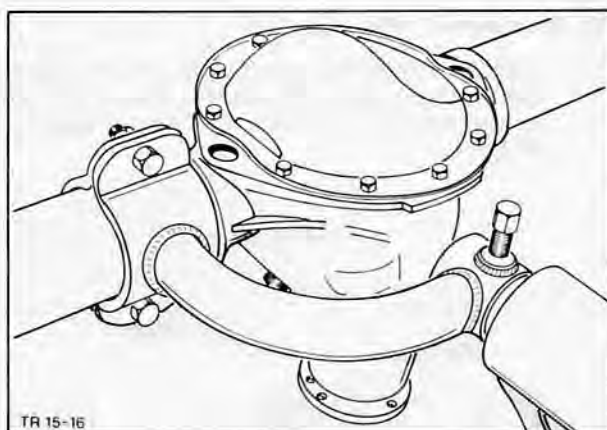

Fig. 24. Mount rear axle on stand
1. Mount rear axle on stand, Fig. 24, and detach rear axle casing cover (12 bolts).